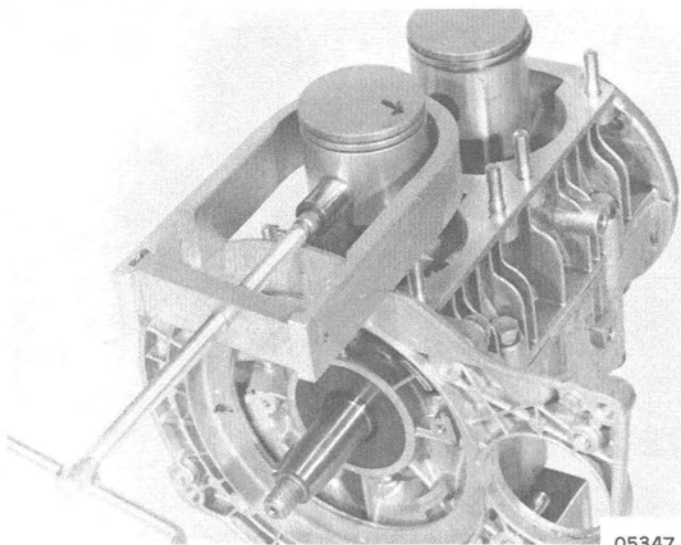

Figure 8. Piston Pin Removal/Installation
3. Use Tool C-91-31400A2 to remove piston pin. (Figure 8)
2. Position piston on connecting rod, with arrow in dome of piston toward exhaust port of cylinder. (Figure 8)
3. Install piston pin with Tool C-91-31400A2. (Figure 8)